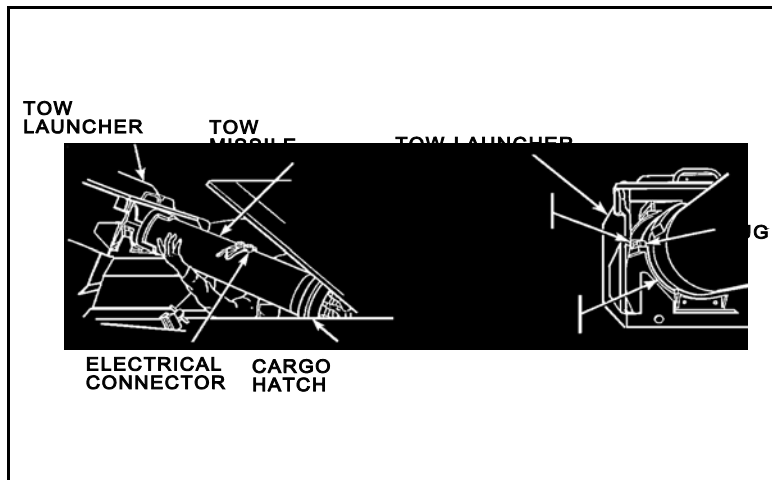

Figure 8. Load the missile.
- 10. Load the TOW missile into the left missile tube (No. 1 tube) (Figure 8).